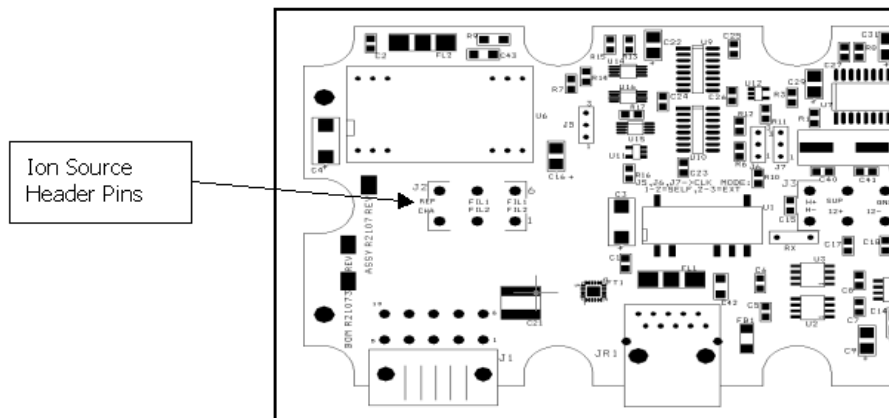

Figure 14: Ion Source Header Pin Schematic
31. On the PCB, use the resistance meter to verify an open circuit between any two of the six ion source header pins (except FIL-1 to FIL-1 and FIL-2 to FIL-2 which should be 0.3 Ohms or less). Also verify an open circuit between the body of the spectrometer and any of the ion source header pins (Figure 14: Ion Source Header Pin Schematic). If there is continuity (short circuit) at any of the points, remove the header and inspect for shorting.